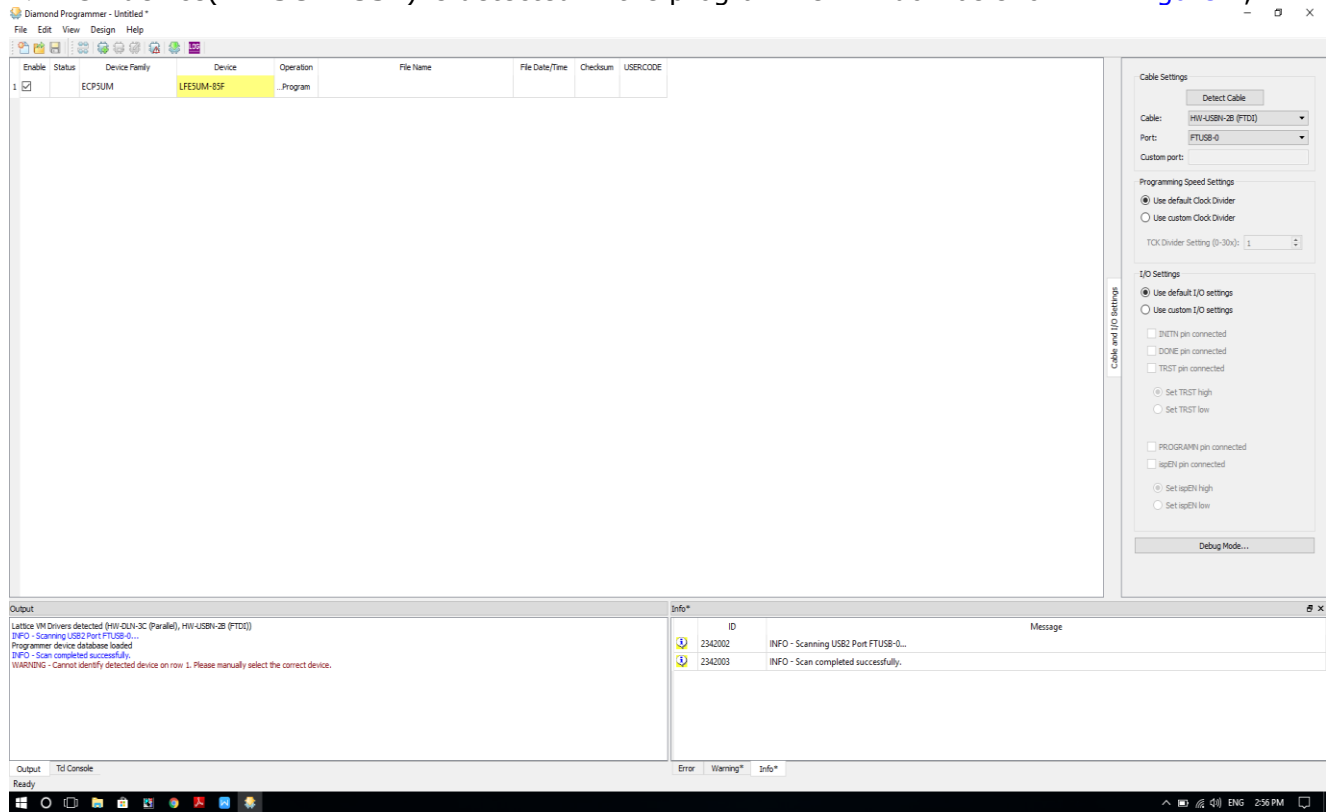

Figure 7: FPGA Device Scan
2. FPGA device(**LFE5UM-85F**) is detected in the programmer window as shown in Figure 7,